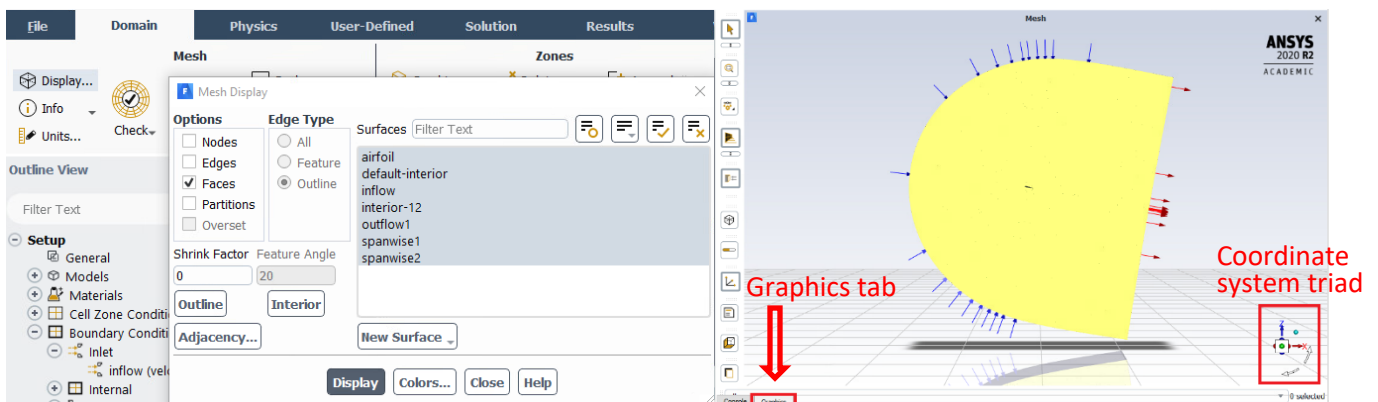

Figure 19. Display fluid domain.
3.7.1. In the **Domain** tab, click on **Display**, select all Surfaces in the Mesh Display window, and click on **Display** and then click **Close** as shown in Figure 19 (left image). This will show the computational domain with inlets and outlets in the Graphics Pane as shown in Figure 19 (right image). Make sure the **Graphics** tab in the bottom left corner of the Graphics Pane is selected. To show the view normal to x-z plane, click on the y-axis in the coordinate system triad shown in the lower right corner of the Graphics Pane. Note, arrows are drawn normal to the domain edges.